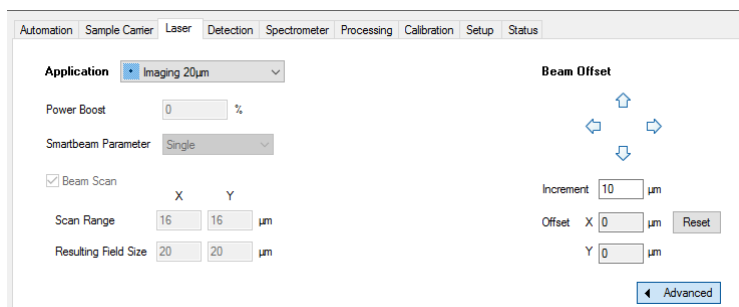

Figure 14. flexControl Laser Tab
2. Make sure that the laser shot is in the cross hairs of the camera view. If necessary, realign the laser spot using the *Beam Offset* settings hidden in the *Advanced* area of the *Laser* tab (see Fig 14).